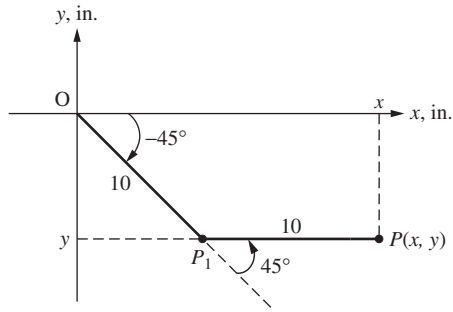

Figure 3.29 The orientation of the two-link planar robot with $\theta_1 = -45^\circ$ and $\theta_2 = 45^\circ$.
- Solution** (a) The orientation of the two-link robot for $\theta_1 = -45^\circ$, $\theta_2 = 45^\circ$, and $l_1 = l_2 = 10$ in. is shown in Fig. 3.29. The x - and y -coordinates of the tip position are given by